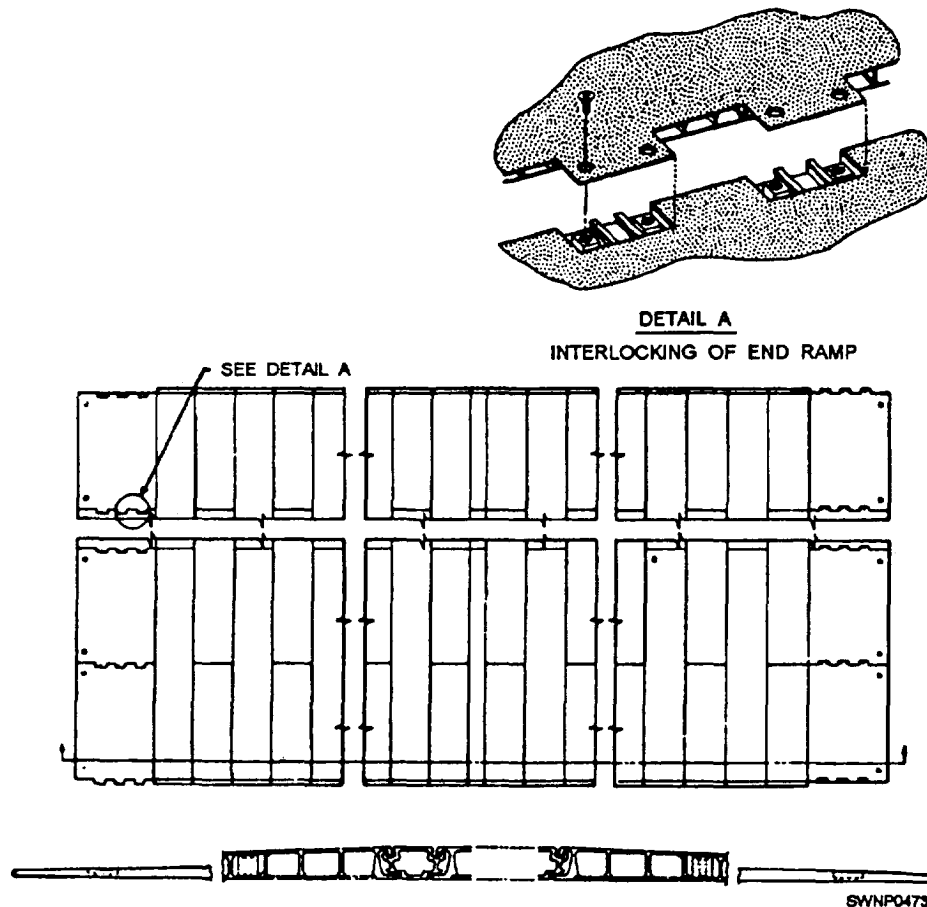

Figure 11-21.—Placemnt of mat end ramps.
4. Complete the end ramp installation, as shown in figure 11-21.